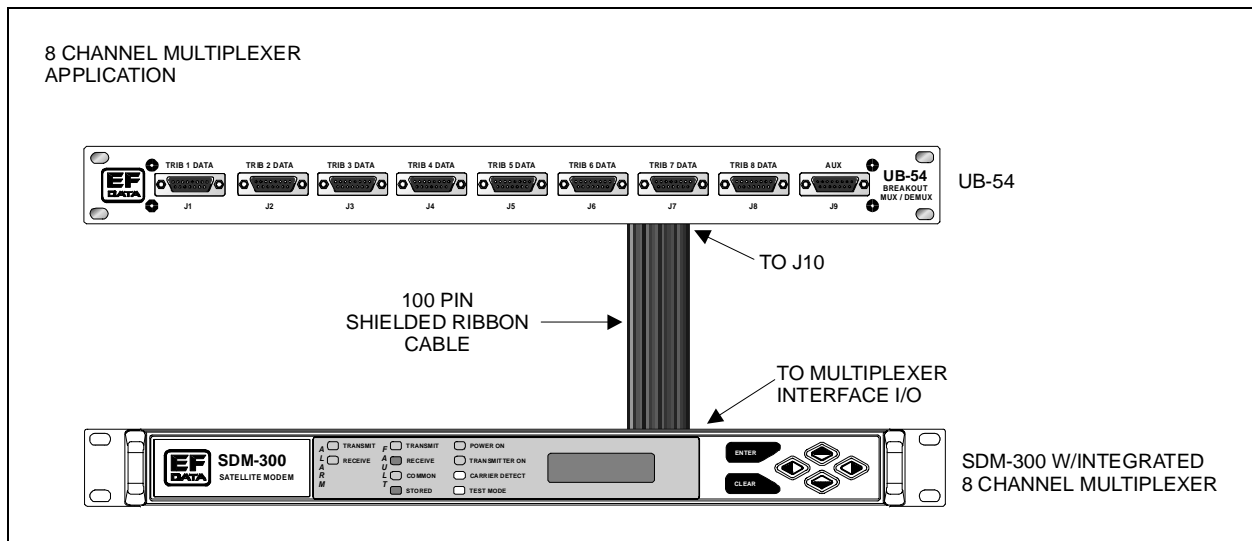

Figure 2-2. UB-54 to SDM-300 Interconnection Diagram
4. (Used with a Multiplexer only) Connect breakout panel to the SDM-300 Satellite Modem using a 100-pin ribbon cable conforming to Table 2-12, (Comtech EFDATA Part No. CA/90101G100-3 or equivalent) as shown in Figure 2-2.